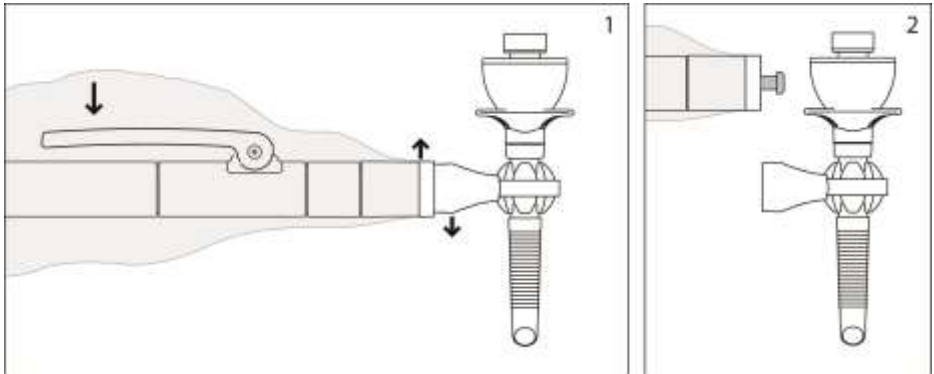

Figure 13
(S) Hold the camera and disconnect the clamp with attached trocar by pressing the handle while you move the sleeve pin out of the clamp hole. (see Figure 13)